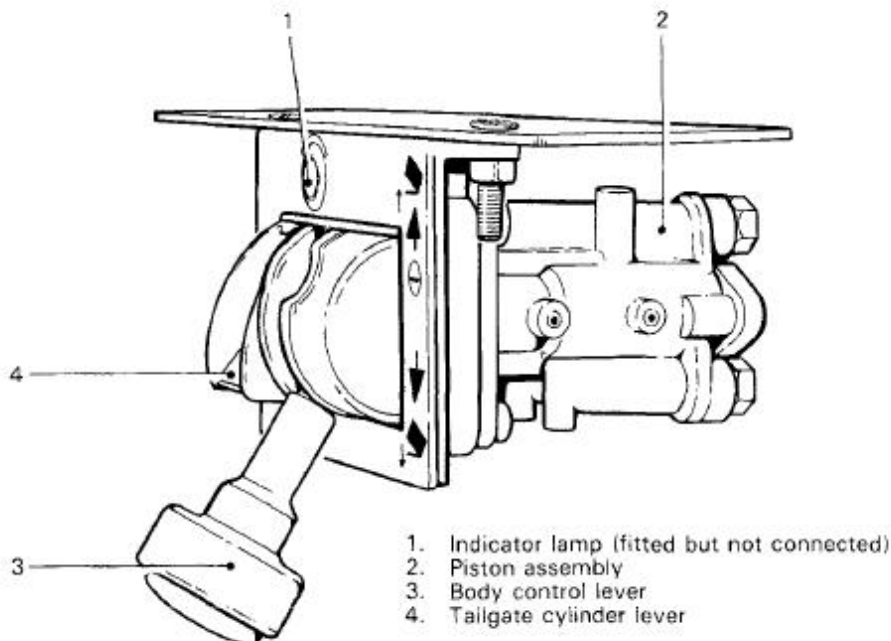

Figure 9 Air Switch
18. The air switch is mounted on a bracket attached to the dashboard in the cabin above the clutch and footbrake pedals (Figure 9). The switch contains the body control lever and the tailgate cylinder lever. The levers are each connected to associated pistons in the switch which pressurise or vent the air lines to the hoist valve (Para 10) and the tailgate cylinder (Para 17). The air supply to the switch is received from a tapping on the drive selector valve in the auxiliary pneumatic devices (Ref EMEI Vehicle G 602).